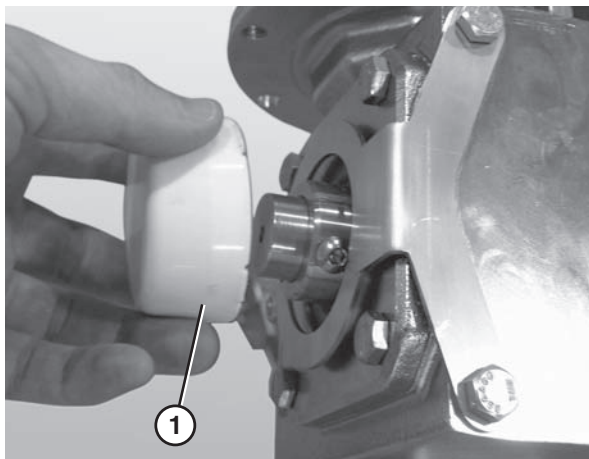

Figure 48
3. Remove the gearmotor cover (**Figure 48, item 1**). Use a screwdriver to pry it loose, if necessary.